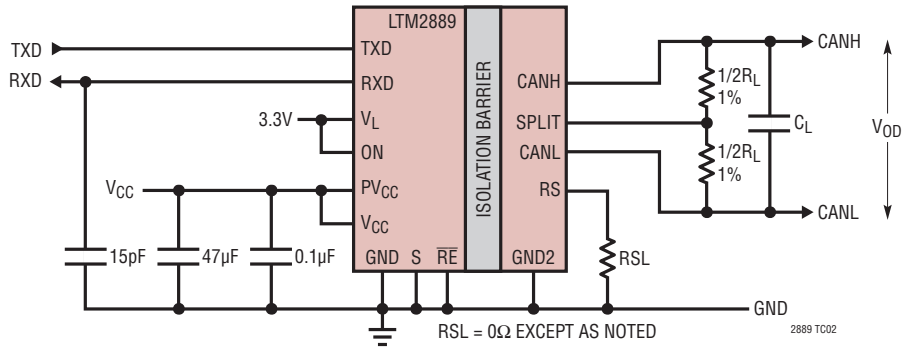

Figure 2. All Bus Pin Switching Characteristic Measurements Except Receiver Enable/Disable Times
**SWITCHING CHARACTERISTICS** The ● denotes specifications which apply over the full operating temperature range, otherwise specifications are at  $T_A = 25^\circ\text{C}$ . Unless otherwise noted, the following conditions apply:  $PV_{CC} = V_{CC} = 3.3\text{V}$  for the LTM2883-3,  $PV_{CC} = V_{CC} = 5\text{V}$  for the LTM2883-5,  $V_L = 3.3\text{V}$ ,  $\text{GND} = \text{GND2} = \text{S} = \text{RE} = \text{RS} = 0\text{V}$ ,  $\text{ON} = V_L$ . Figure 2 applies with  $R_L = 60\Omega$ ,  $C_L = 100\text{pF}$ ,  $\text{RSL} = 0\Omega$ . Figure 10 applies for  $V_{CC2} = 3.3\text{V}$ ; otherwise ADJ is floating.